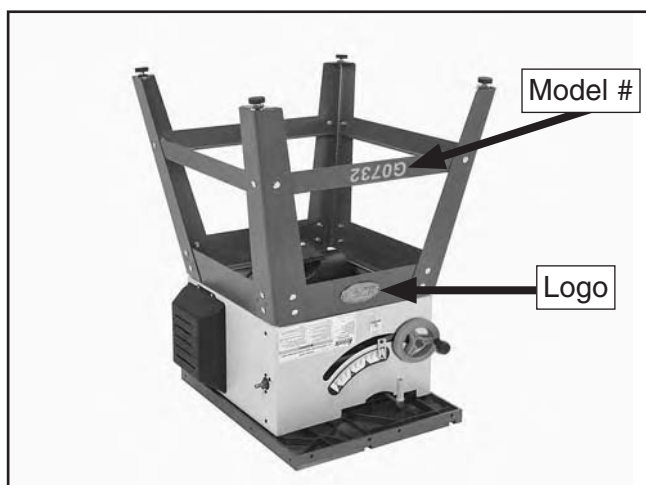

Figure 15. Stand assembly positioned on saw.
7. With the help of two other people, place the saw upside down (we recommend putting it on a piece of cardboard to prevent scratching the cast iron table top), then place the stand on the saw so the Grizzly logo and model number face the same direction as the front of the saw, as shown in **Figure 15**.